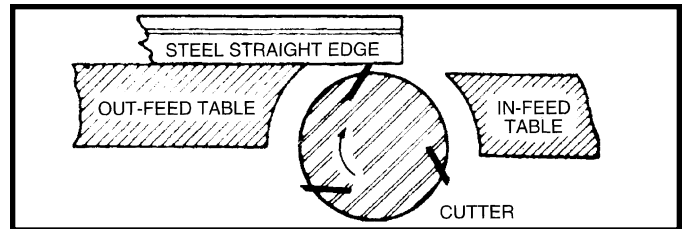

Fig. 24
3. Place a steel straight edge on the outfeed table, extending over the cutterhead as shown in Fig. 24.